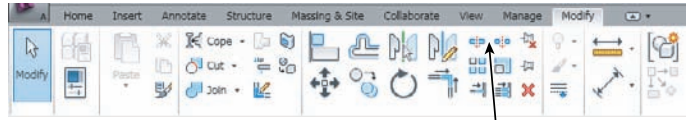

Figure 3.89
5. In the Properties palette's Type Selector, change the wall type to Walls: Curtain Wall: Storefront (Figure 3.89).